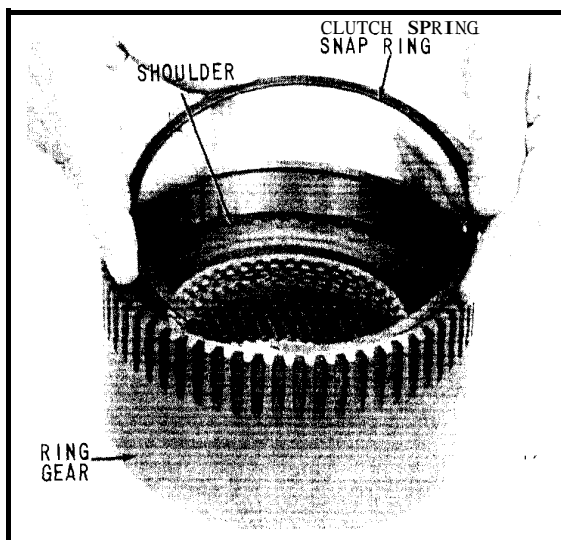

Fig. 37 Installing Clutch Spring Snap Ring
23. Install clutch spring snap ring, (Fig. 37). Assembly is complete when snap ring is squarely and firmly seated on the internal shoulder provided by the top of the internal splines.